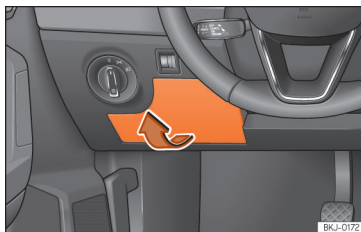

Fig. 50 On the driver's side dashboard: fuse box cover.
- Open: remove the fuse box cover in the direction indicated »» Fig. 50.